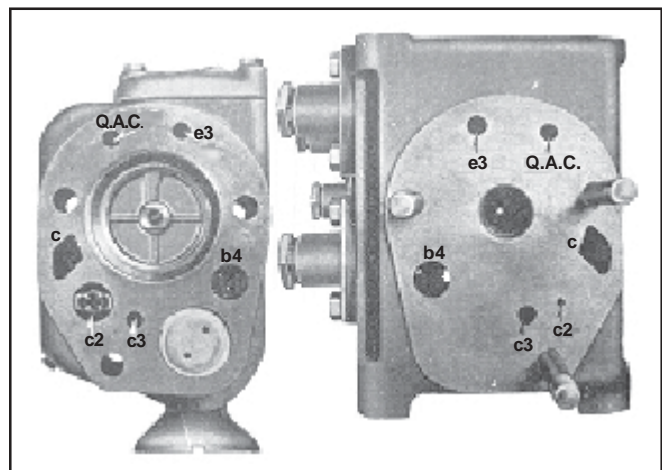

Figure 56 - Bolting Faces - Emergency Portion & Pipe Bracket Emergency Face
- 7.4 The quick action chamber port marked "QAC", Fig. 56 must be thoroughly blown with air pressure to insure the removal of all water and dirt from the quick action chamber volume in the bracket.